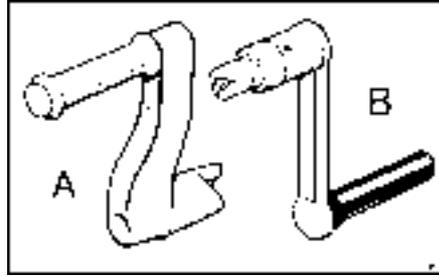

Figure 3.2.1 The Starting Handle
Insert the correct handle, refer to 'A' in 'Figure 3.2.1', into the starting housing.
Swivel the starting handle housing cover (A) to one side and insert the correct handle, refer to 'B' in 'Figure 3.2.1', into the housing.